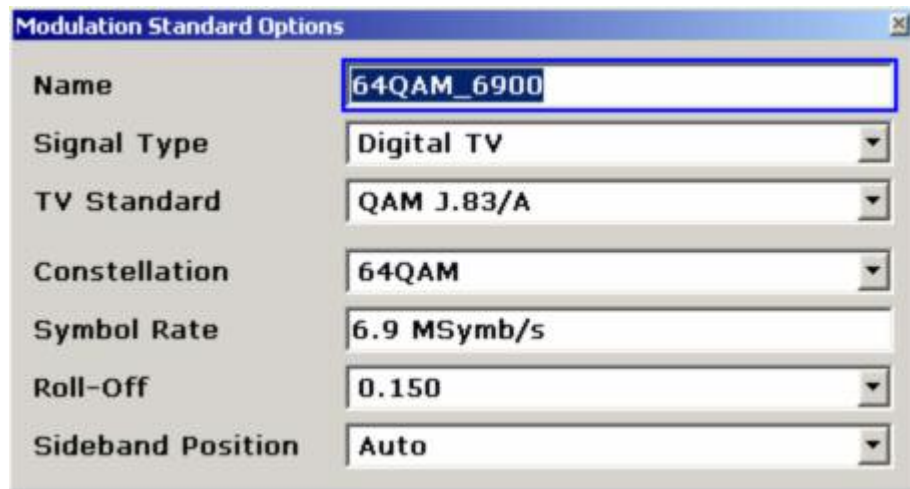

Fig. 2–63 **Modulation Standard Options** dialog box for digital TV
- The channel table references modulation standards by their **Name**. Its name (see Fig. 2–63) should comprise information about the used constellation and the symbol rate, e.g. "64QAM\_6900".